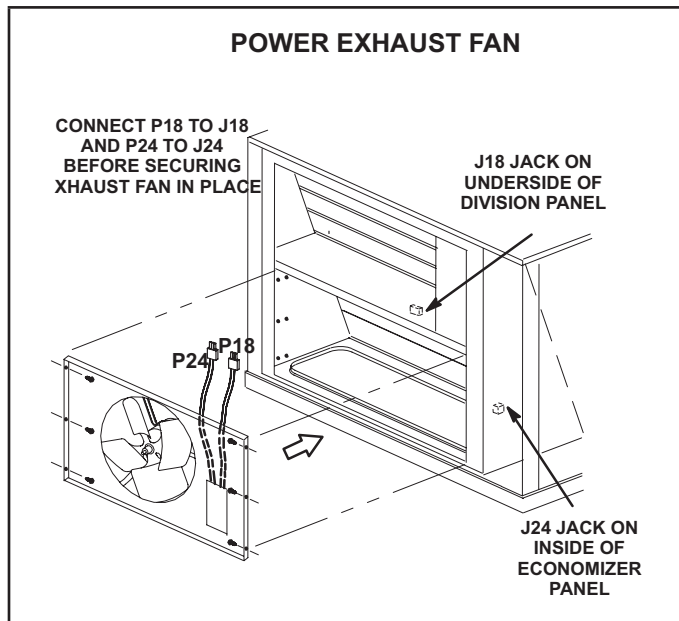

Figure 41
1. On the back side of the unit, remove the screw securing the back of the ionizer bracket. See Figure 41. Retain the screw to secure the back side of the ionizer bracket.